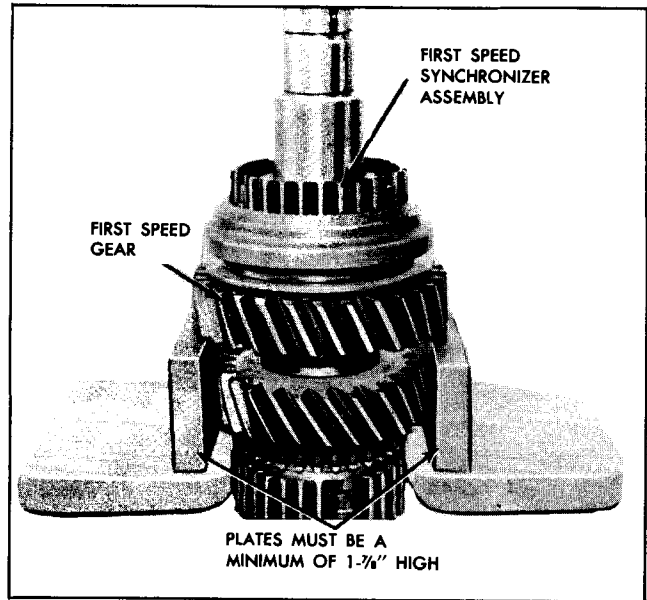

Fig. 7A-25 Removing 1st Speed Synchronizer and Gear
20. Support 1st speed gear on press plate, using two (2) pieces of stock 6" x 1 7/8" x 1/4" (Fig. 7A-25). Remove 1st speed synchronizer assembly and 1st speed gear.